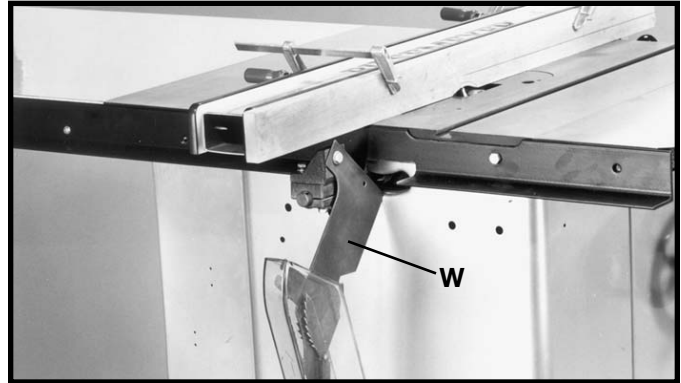
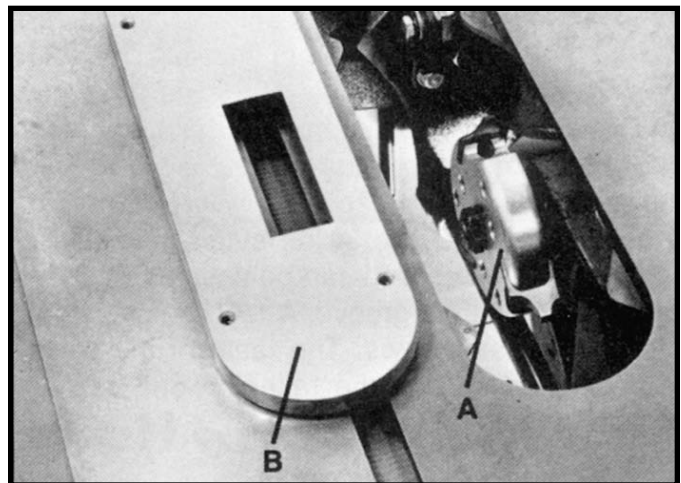

Fig. 140
Fig. 141
IMPORTANT: For certain cutting operations such as dadoing and moulding where you are not cutting completely through the workpiece, the blade guard and splitter assembly cannot be used. Simply loosen screws (G) and (H) Fig. 139. Lift up and swing blade guard and splitter assembly (W) Fig. 140, to the rear of the saw as shown in Fig. 140. **CAUTION:** Always return and fasten the blade guard and splitter assembly to its proper operating position for normal thru-sawing operations. The moulding cutterhead (A) Fig. 141, is assembled to the saw arbor as shown. Also, the accessory moulding cutterhead table insert (B), must be used in place of the standard table insert.